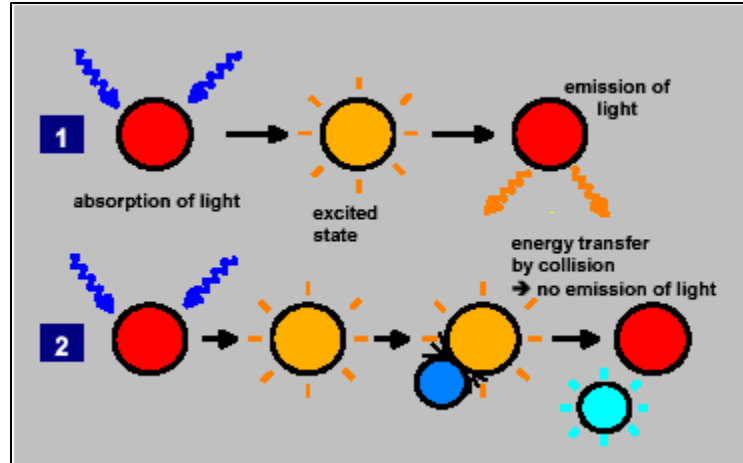

Figure 2.4: Luminescence in the absence of oxygen (1) and in the presence of oxygen (2).
Figure 2.4: Luminescence in the absence of oxygen (1) and in the presence of oxygen (2). .....	14